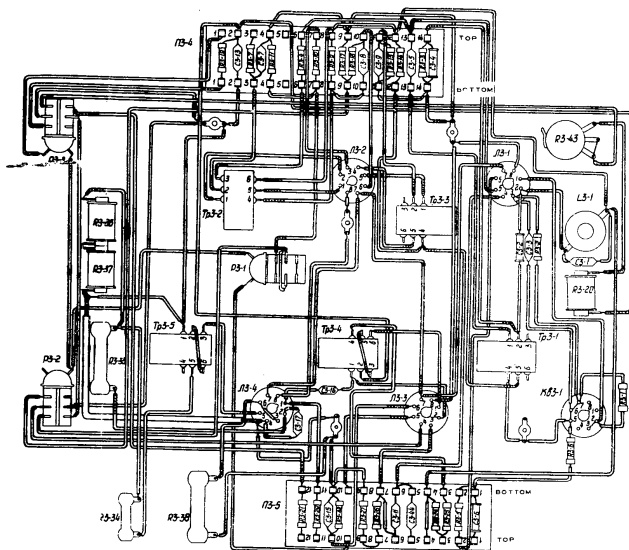

FIG. 63. WIRING DIAGRAM OF PANEL No. 1 IN UNIT P3
- Fig. 63. Wiring diagram of panel No. 1 in unit P3.